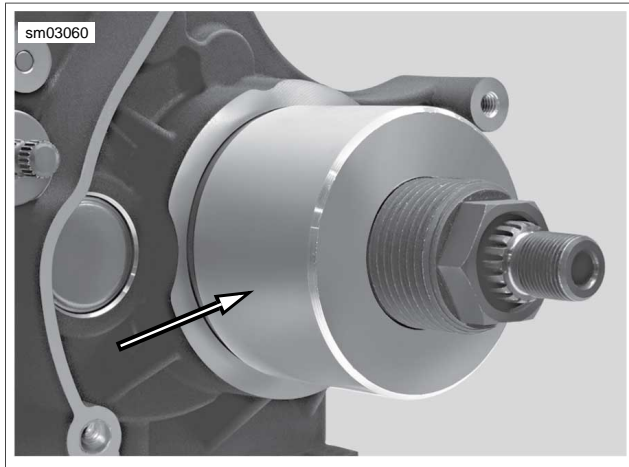

Figure 7-50. Place Installer (Part No. HD-47856-1) over Adapter
5. See Figure 7-50. Slide INSTALLER (Part No. HD-47856-1) over adapter until cupped end of installer is flat against seal.